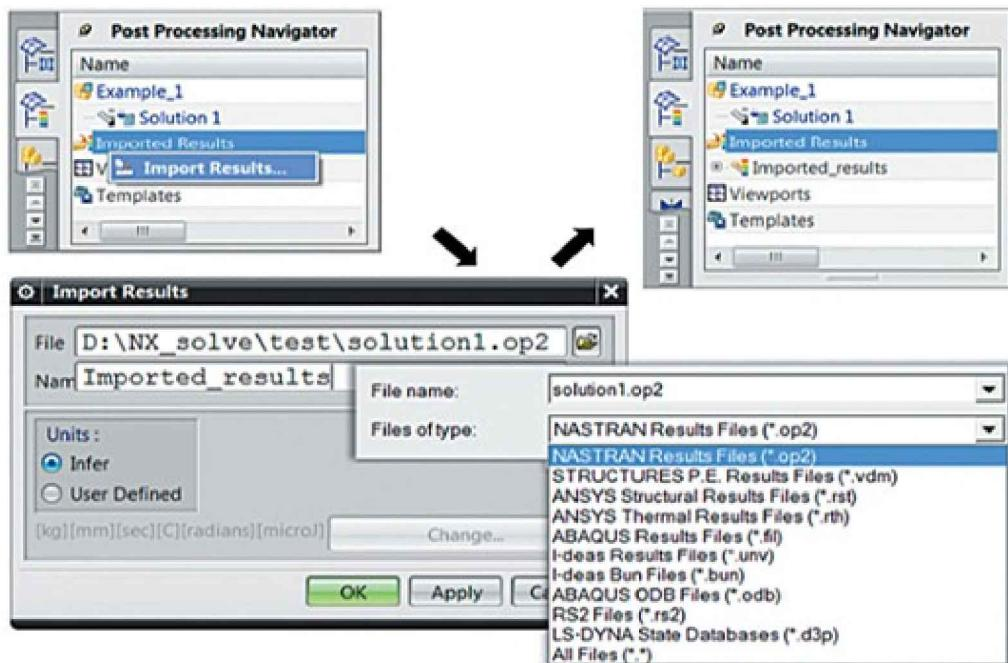

Figure 5.6. Importing a results file
- In the **Import Results** dialog box, click *Browse*, select the appropriate file type, then select the relevant results file (Figure 5.6).